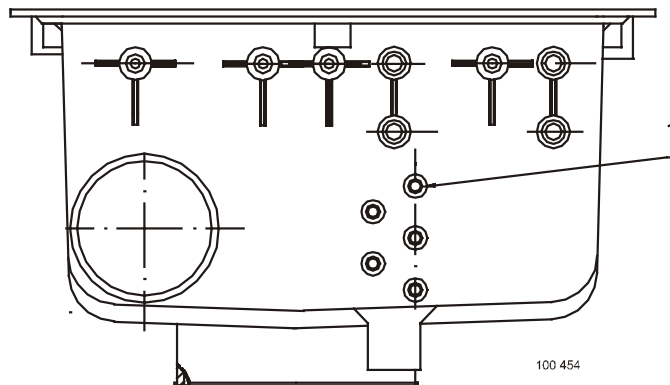

Fig 4.7.A. Connection soap hopper
The hoses of external dosing of liquid soaps are pushed through the holes in the rear panel after removing the plugs. The hoses should be protected by rubber bushings where penetrating the rear panel. After this make as many holes in the soap hopper, fig. 4.7.A, pos.1) as you have liquid soap hoses. Connect the hoses to the soap hopper by means of clamps.